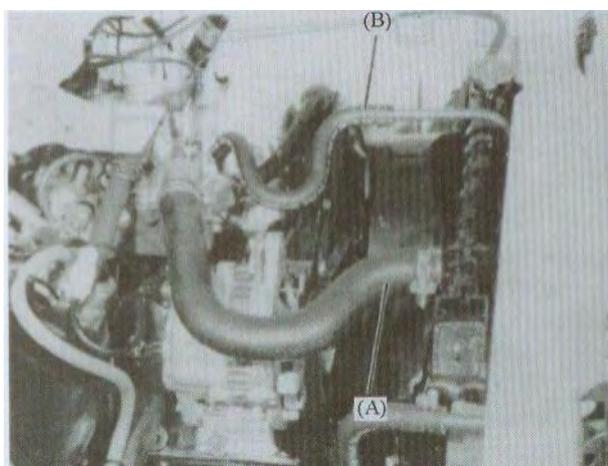

FIG.6-9 (see fig.7-10 of service manual for HFJ6351B)
- (3) Disconnect radiator inlet hose (A), if equippe with brake booster, disconnect vacuum hose. (B) (FIG.6-9).